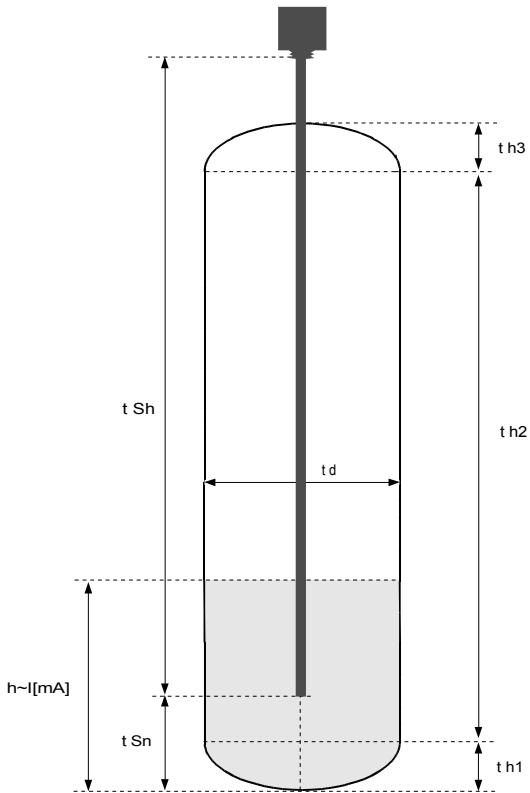
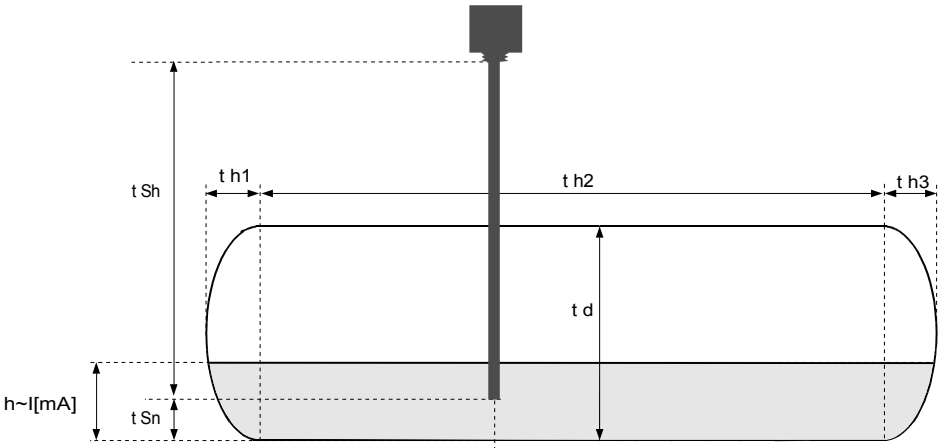

Figure 7.1 Parameters of cylindrical tank in vertical position.
Figure 7.2 Parameters of cylindrical tank in horizontal position.
**„t h1”, „t h2”, „t h3”, „t d”** - the parameters defining shape of cylindrical tank (Figure 7.1 and Figure 7.2).
„**t Sn**”, „**t Sh**” - parameters defining the length and position of the sensor used to measure level of liquids, gases or solids in the tank (Figure 7.1, 7.2).